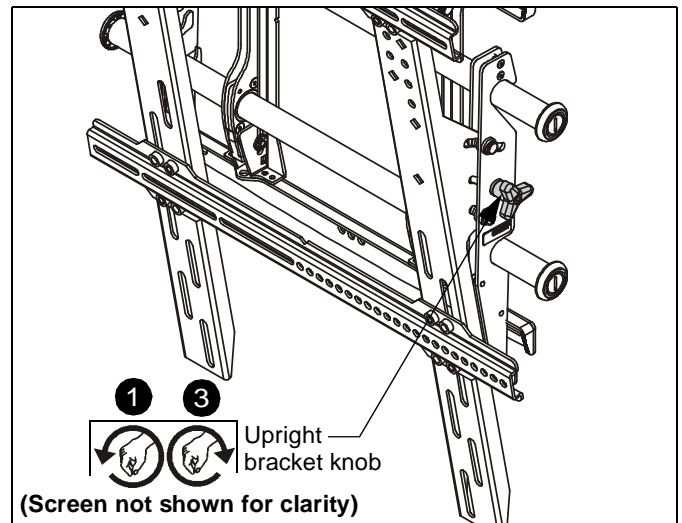

**Figure 9**
1. Use 3/16" hex key (F3) to turn height-adjust screws to right (tighten) to raise side of screen. (See Figure 9)
2. Use 3/16" hex key (F3) to turn height-adjust screws to left (loosen) to lower side of screen. (See Figure 9)